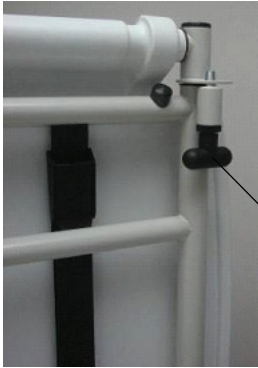

Figure 113 – Tray support lock
1. Pull down the tray support pole lock (G) (Figure 113).